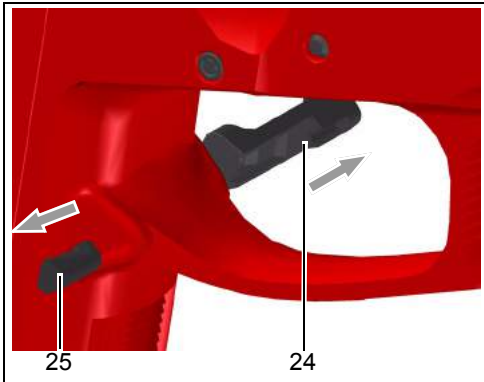

Fig. 7, Repositioning the magazine catch (illustration without trigger)
4. Remove magazine catch **24** and insert it from the desired operating side (see Fig. 7).